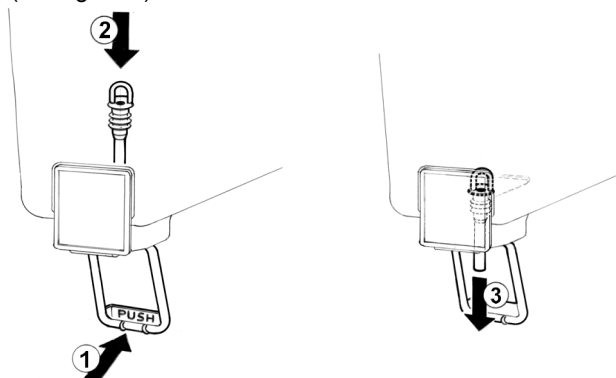

figure 5
- 2 **Pinch tube faucet:** push the dispensing handle (1) and insert the pinch tube into its vertical seat in the bowl bottom(2). Lightly pull the pinch tube end downwards til itl is well arranged (3) (see figure 5).